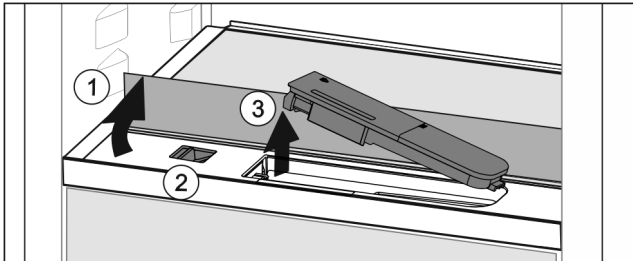

Fig. 57
- ▶ Lift the glass panel and fold towards the rear until it clicks into place Fig. 57 (1).
- ▶ Slide the slider Fig. 57 (2) to the left.
- ▶ Remove the water tank Fig. 57 (3).